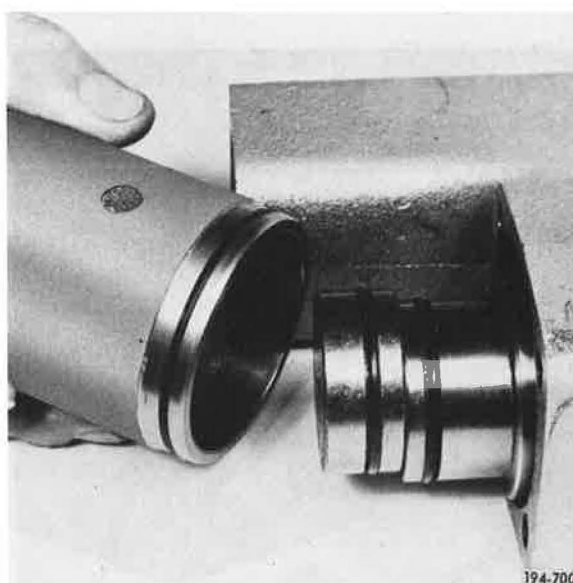

Figure 242. Installing Shift Cylinder
13. Install Hi/Direct shift cylinder onto shift cover, by sliding it over the end of the Hi/Direct shift rail. See Figure 242.